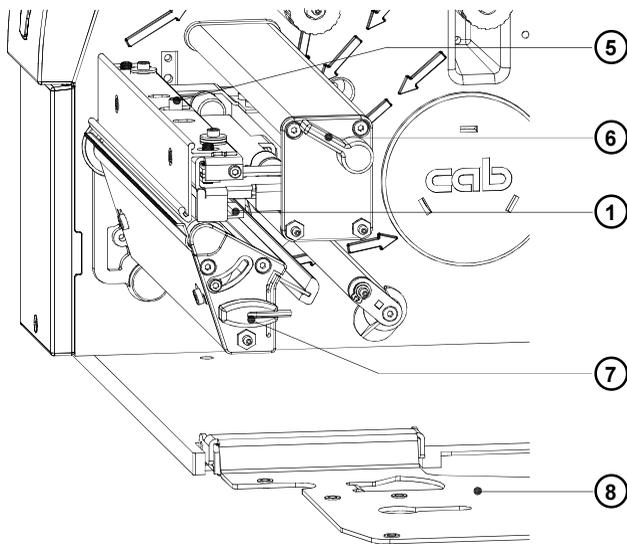

Fig. D-2 Changing Printhead (I)
1. Swing the lever (6) clockwise until it stops and swing down the plate (8) as shown in figure D-2. Remove the media from the printer.
2. Swing back the lever (6) to the position shown in figure D-2. In this position, the printhead assembly is unlocked but still lying on the print roller.
3. Loosen the printhead locking screw (5) using the Allen key (7).
4. To lift the printhead assembly, swing the lever (6) clockwise until it stops.
5. Remove the printhead (1) from the pins (12) on the printhead carriage.
6. Carefully unplug the printhead (1) from the connectors of the printhead cables (10 and 11).
8. Place the printhead into the assembly and insert the holes (8) onto the pins (12).
9. Tighten the locking screw (5) by hand. Check that the printhead is completely secured in the printhead carriage.
10. Swing the lever (6) again into the position shown in figure D-2.
11. Tighten the locking screw (5) completely. Do not over-tighten the locking screw (5).